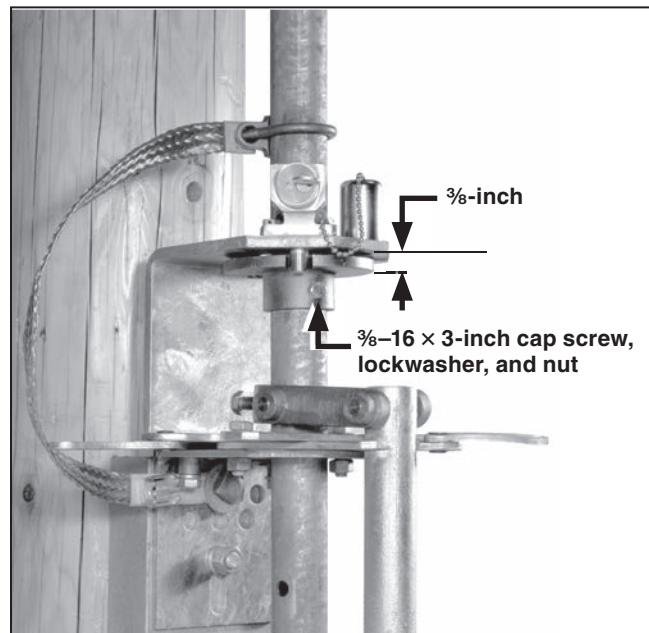

Figure 39. Attaching the locking disc.
**STEP 37.** Hold the locking disc  $\frac{3}{8}$ -inch below the interlock bracket and drill  $\frac{7}{16}$ -inch diameter holes through the vertical operating-pipe section, using the holes in the locking disc collar as pilots. Attach the locking disc to the pipe using the  $\frac{3}{8}$ -16  $\times$  3-inch cap screw, lockwasher, and nut furnished. See Figure 39.